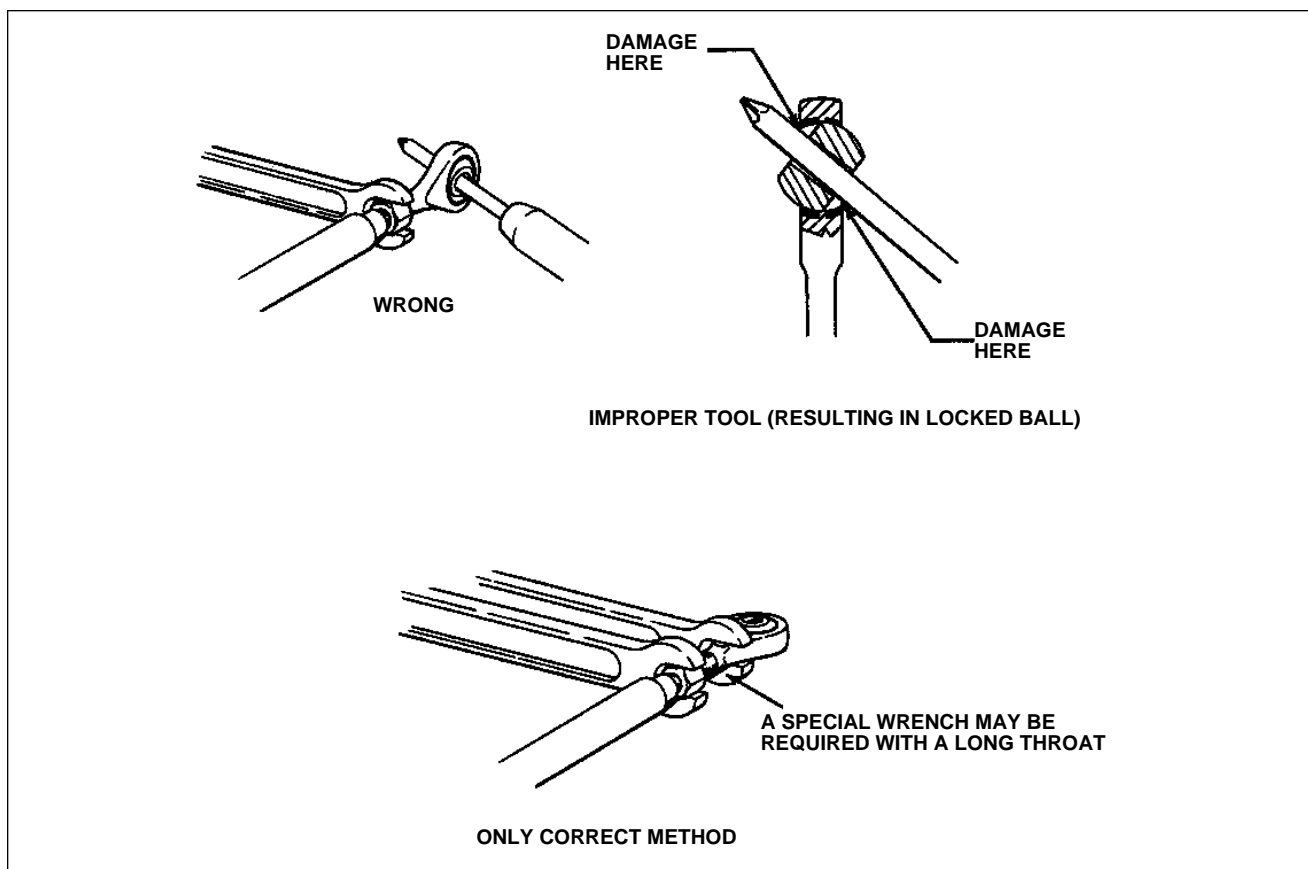

Figure 20-2. Installing Rod End Bearings
C. REMOVAL OF CHERRYLOCK RIVETS (Refer to Figure 20-2.)